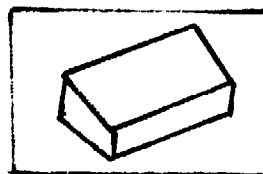

Fig. 20 - End Taper
60. End Taper. (See Fig. 20.) Move the tops of both guide plates toward the thin end. Move the bottoms of both guide plates toward the thick end. (See Fig. 1). The tops should be moved as far in one direction as the bottoms are in the other.